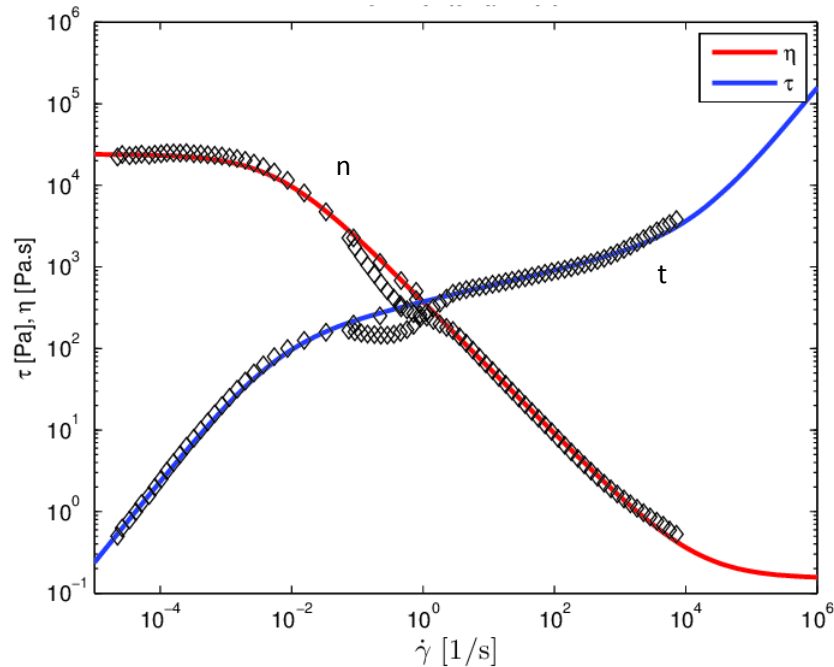

Figure 2 : Shear stress and apparent viscosity versus shear rate of a polymer melt
- (c). Typically polymer melts display three characteristic regions of flow properties over a wide range of shear rates as shown in Figure 2. Write a short discussion based on the observed results, define the flow regions of the tested polymer in Figure 2 and explain the structural molecular changes of each region over a range of shear rates.